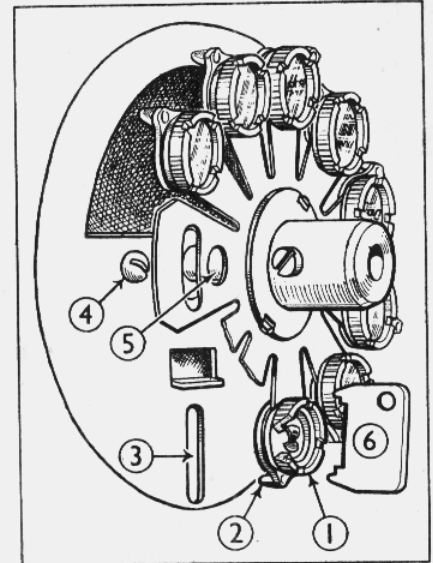

Fig. 4.—Perspective sketch of the Cossor Teledial with the moulded dial removed and two of the control plate tongues cut away.
A perspective sketch of its selector plate is given in Fig. 4. In this illustration, the moulded front plate, with its ten finger holes, which also forms the manual tuning knob, has been removed. It is held to the boss of the selector plate by a set screw, and a moulded projection on the dial normally fits in the slot which will be seen in one of the tongues of the selector plate, to the left of the hole (5).